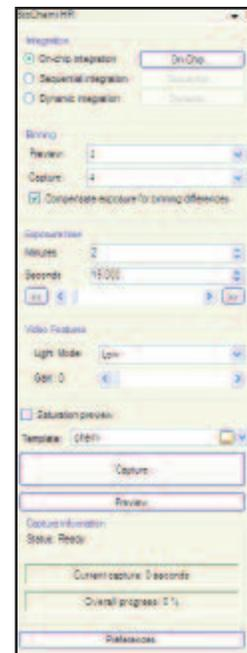

Fig. 4. Typical Chemiluminescent Capture Settings in the VisionWorksLS Software.
4. The membrane is sealed, quickly placed in the BioSpectrum® dark-room (Fig. 3), and the lens aperture set to 1.2 with typical chemiluminescent image capture settings as shown in Fig. 4. A typical result is shown in Fig. 5.